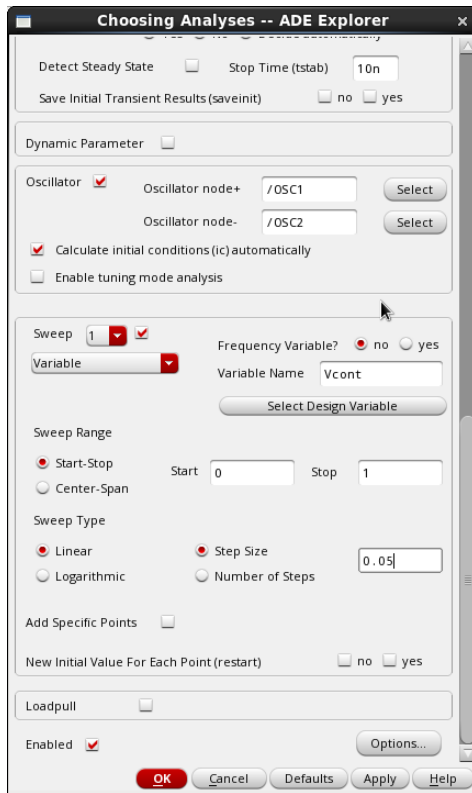

Fig. 13
- Set xVarac to 1 and run PSS+Pnoise simulation while sweeping V_{cont} from 0 to 1.2V, as shown in Fig. 13. Plot the oscillation frequency and phase noise versus V_{cont} . Select the fundamental harmonic from "Harmonic Frequency" form as illustrated in Fig. 15. Is your tuning range large enough? If not, increase xVarac. The varactors will add parasitic capacitance, which will lower your fundamental frequency. Decrease C_p to counteract this.